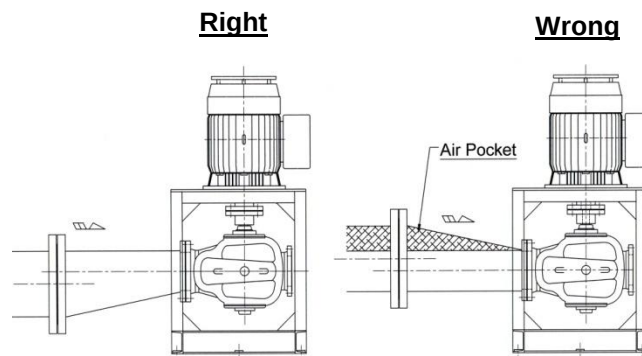

Fig. 3
- (3) Install a check valve for reverse flow prevention when the discharge pipe is too long, actual head is high, water is fed pressure tank, or when two or more pumps are operated in parallel. Install the check valve between the pump and the sluice valve.
- (4) If there is danger of water hammer, a quick closing check valve should be installed on the discharge side.
- (5) If a pipe of different diameter than pump flange is used, an eccentric type reducer should be installed so as not produce any air pocket. (Fig. 3)